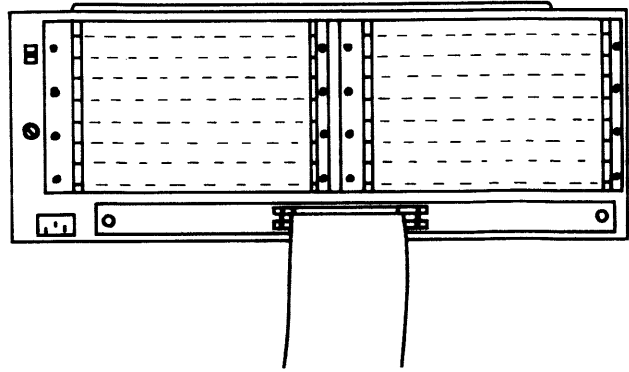

Figure 5 9888A Bus Expander Slots
**Step 1:** Refer to the diagram below (Figure 5), where there is room to make 16 entries, each representing one slot location.